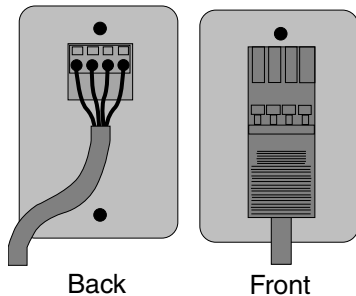

Figure 1
- ① Supply one WEP for every motor specified at the project. Terminate, color for color, the four-conductor wire installed in the walls to the 90° plug in the plate (see Fig. 1). Use a small flat screwdriver to open the spring-loaded terminals on the plate. **Make sure the power is off before installing the Wall Entry Plate.**